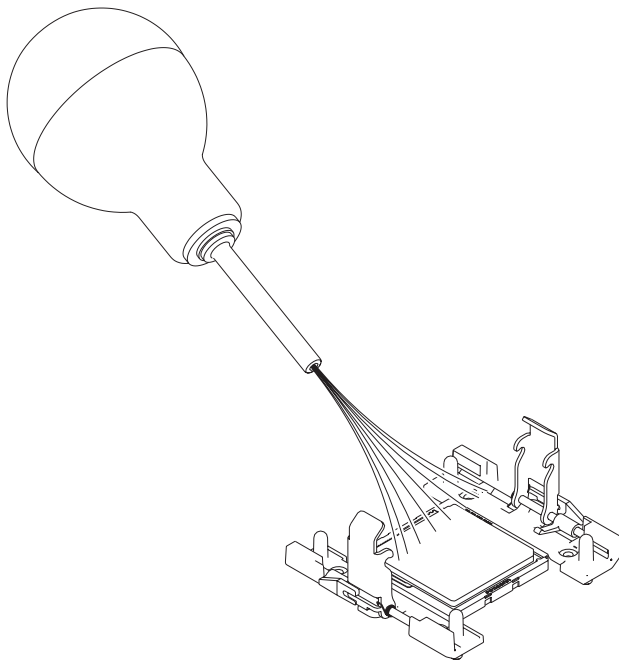

Figure 3. Dusting the processor area
11. Dust around the processor module using an air bulb. You must wait for any dust to settle before moving to the next step. See Figure 3.